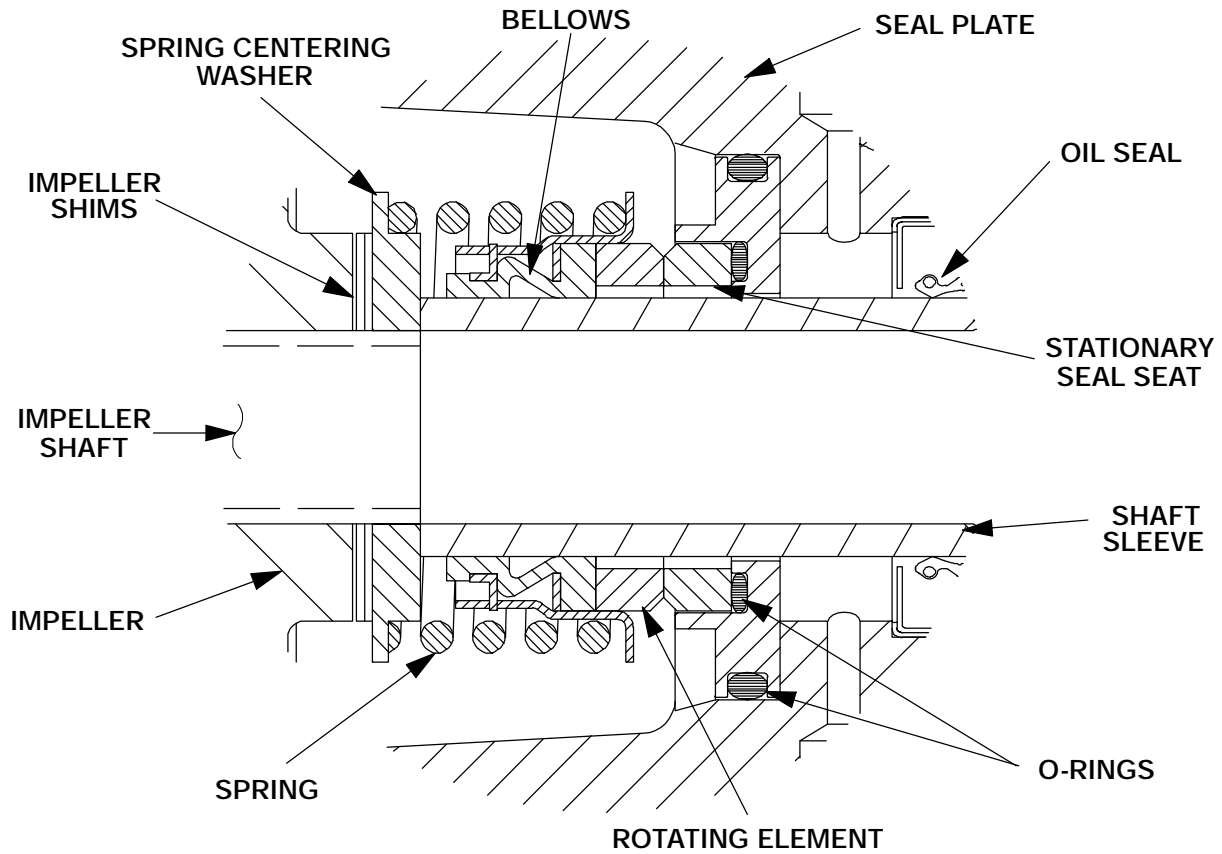

Figure E--3. 13294A Seal Assembly
To ease installation of the seal, lubricate the O-rings and shaft sleeve (61) with water or a very **small** amount of oil, and apply a drop of light lubricating oil on the finished faces. Assemble the seal as follows, (see Figure E-3).